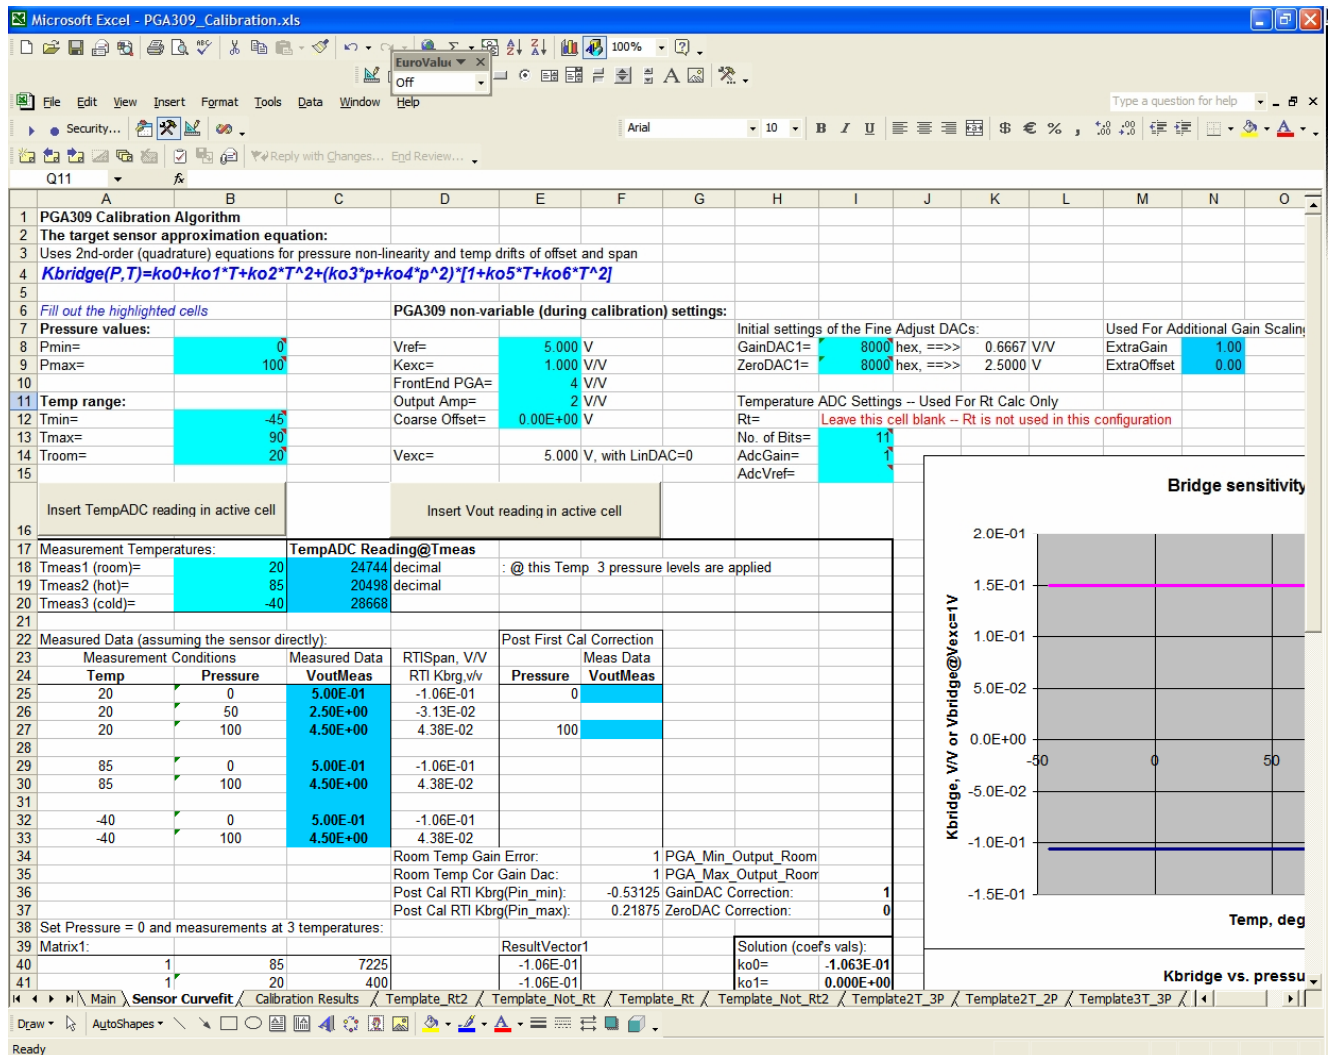

Figure 35: Sensor Curvefit Worksheet
- 2) The “Sensor Curvefit” Worksheet (Figure 35) is the place where all results of the calibration measurements are entered and the sensor compensation coefficients are calculated. The fields colored light blue contain pre-selected values, such as PGA309 Gain and Offset settings, the temperatures where the measurements are made and sensor pre-characterized parameters (such as span drift non-linearity). The dark-blue fields are the ones where the measured values are entered at each stage of the calibration. The framed area is filled out when “Prepare Calibration Sheet” is clicked on the previous page. It contains the cells with calculations specific to the chosen calibration algorithm. The two control buttons paste in the current worksheet cell either the last Vout reading or the last Temp ADC value from the Board Control Program. This saves the manual typing of the numbers. However, all the data can be also entered manually if the measurements are made with other equipment than the PGA309EVM PC Interface Board.